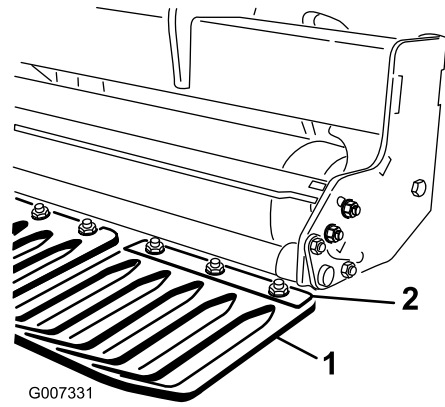

Figure 17
- Loosen the nuts securing the turf guard clamps to the turf guard tool bar (Figure 17).